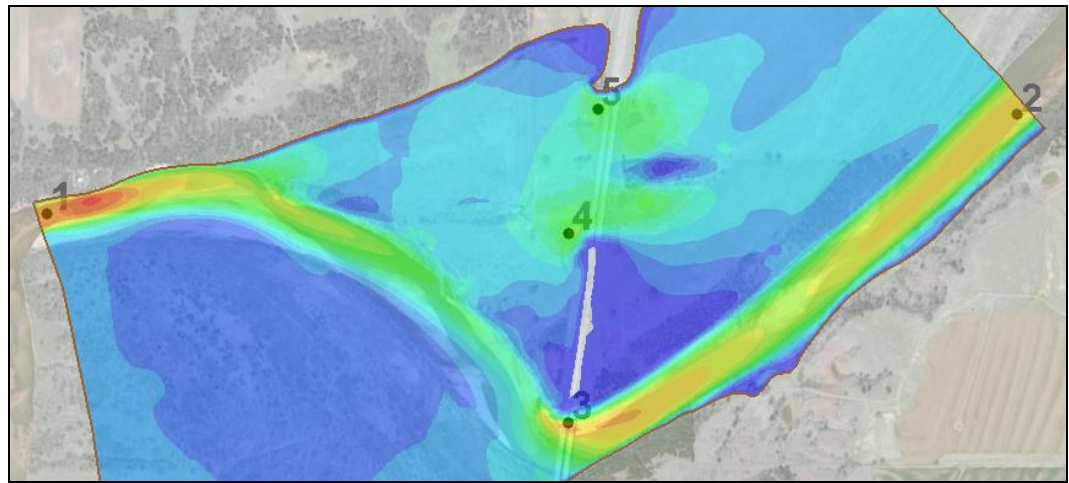

Figure 4 Locations of the five monitor points
3. Using the **Create Feature Point**  tool, place five monitor points in this model at the following location as show in Figure 4: